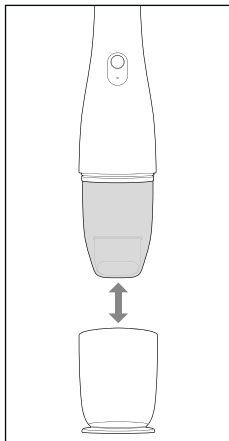

Fig. 4
- ▶ Always make sure that the dust filter ❺ is properly inserted before you use the appliance (see section **Cleaning/changing the dust filter**).
1. Hold the appliance by the handle ❾ and pull the cap ❶ off the appliance (see Fig. 4).
2. If required, insert the 2-in-1 suction nozzle ❷ into the suction opening ❷ (see section **2-in-1 suction nozzle**).
3. Press the On/Off switch ❶ ❷ to switch on the appliance.
4. Press the On/Off switch ❶ ❷ to switch off the appliance after use. The charge indicator lamp ❸ turns off.
5. Push the cap ❶ back onto the appliance (see Fig. 4).